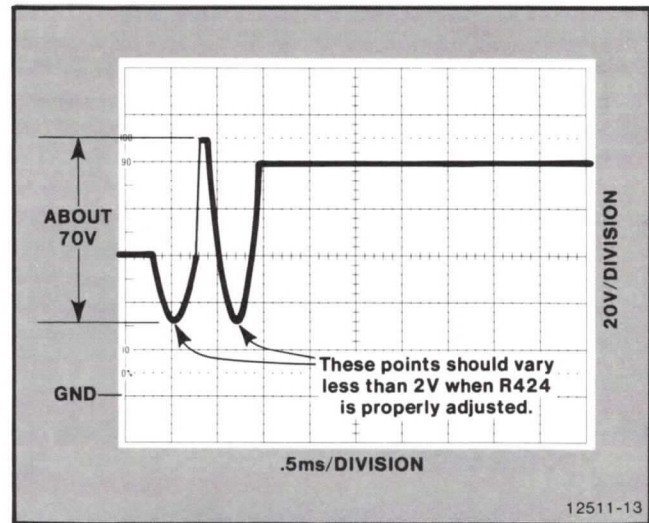

Figure 4-14. Dynamic Focus Waveform.
- c. ADJUST — R424 (Focus) on the Deflection Amplifier board so that the waveform changes less than 2 V as R128 (Corner Focus) is adjusted. See Figure 4-14.